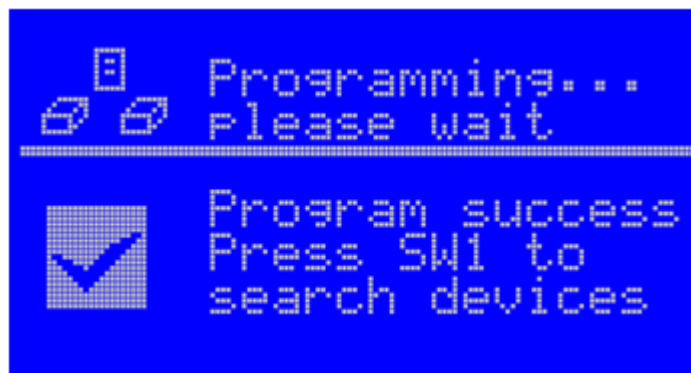

Figure 10-20. LCD OTAP Program Success Screen
- Press SW4 and the OTAP Programmer flashes the device over the air. Users must wait for the Program Success message to appear in the serial terminal window and must not press any buttons on the OTAP Programmer Board or on the device being flashed. The Program Success message is shown in Figure 10-20.